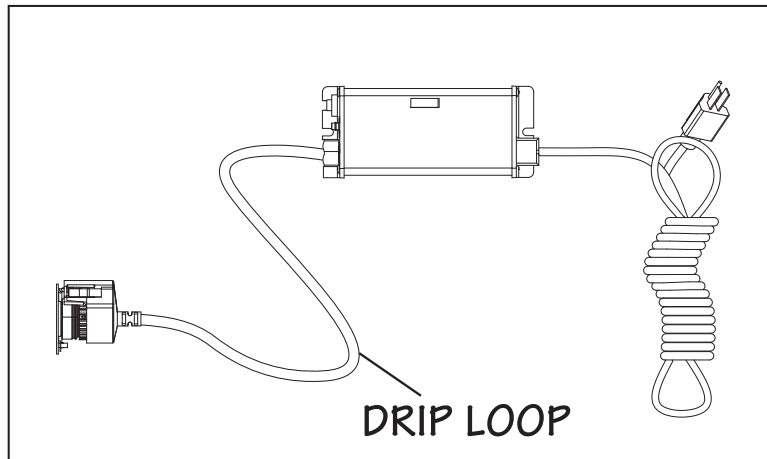

Figure 5 Drip Loop
- The controller should be mounted either above or beside the chamber. Always mount controller horizontally to prevent moisture from running down cordage and causing a potential fire hazard. Drip loops in all cordage connected to controller is highly recommended. Refer to Figure 5.